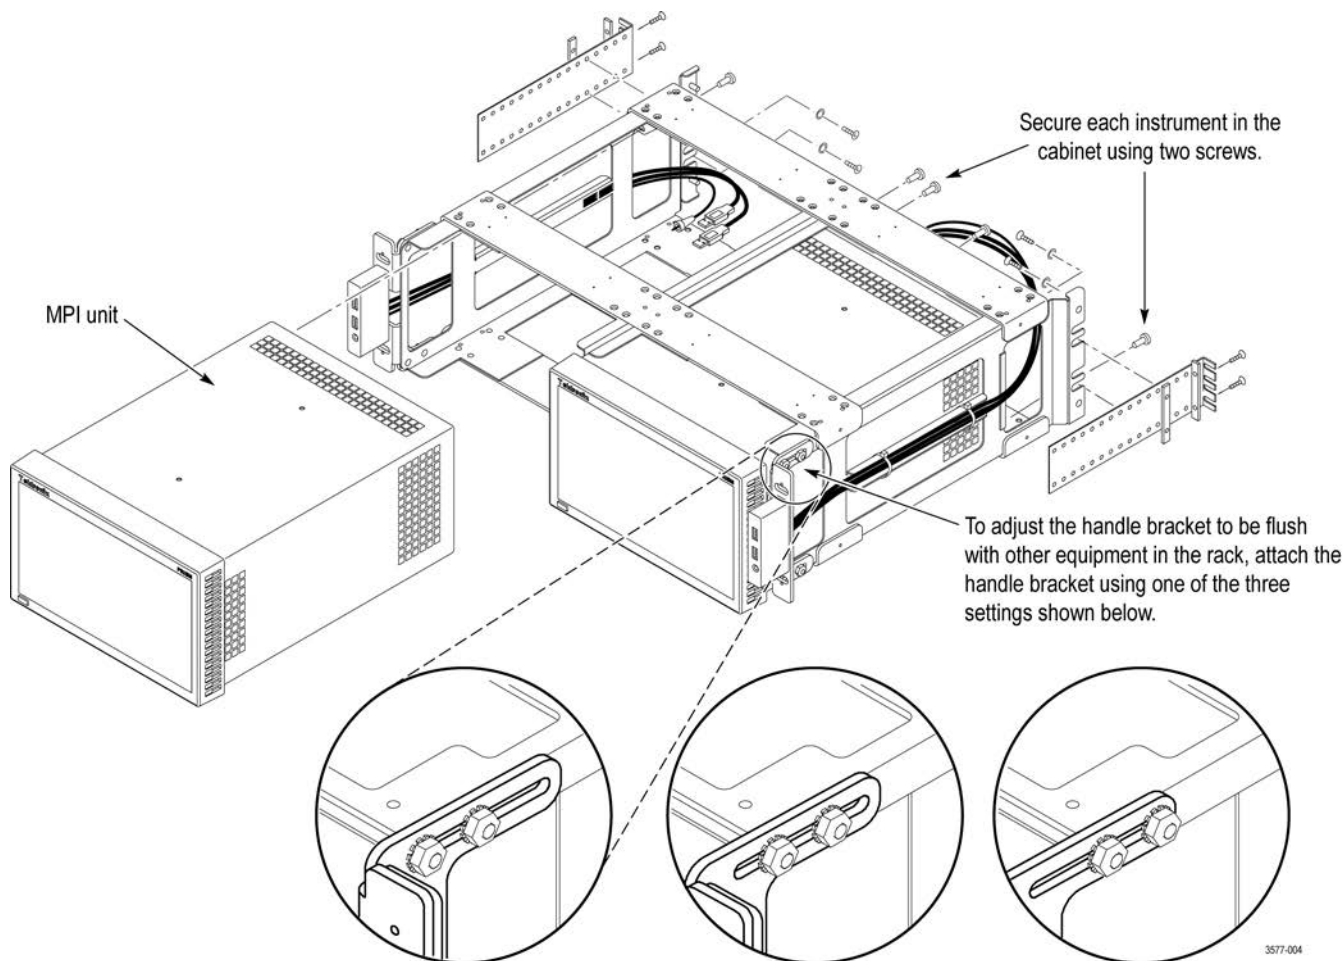
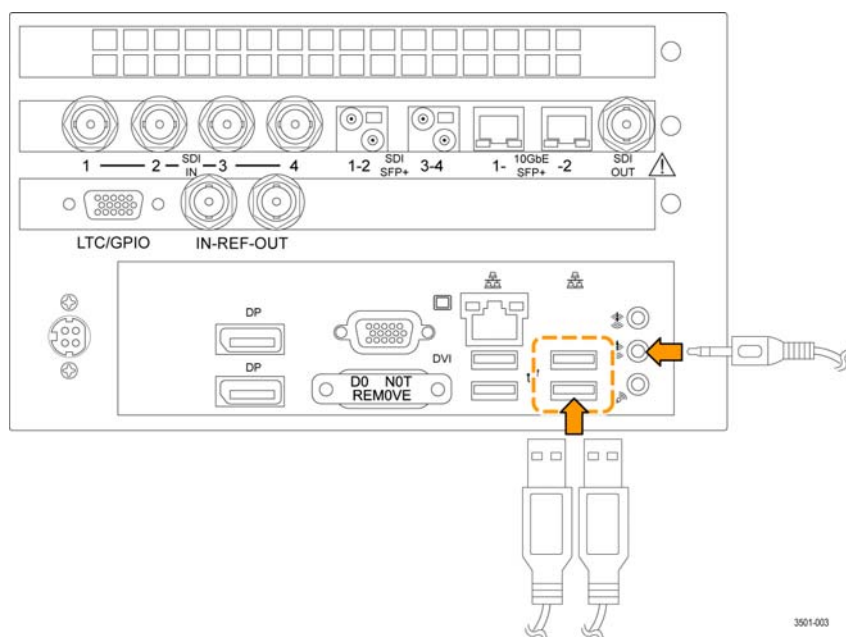

Figure 5: Installing two MPI monitors in the MPI-RACK-MM dual rack cabinet
Figure 6: Connecting the rack cabinet USB and audio cables to the MPI monitor
1. Install an MPI monitor in the dual rack cabinet: (See Figure 3.) (See Figure 4.) (See Figure 5.)
- b. Use a screwdriver with a TORX T-15 tip to secure the instrument in the dual rack cabinet with two 10-32 X 0.625 screws (item 3 in Table 4). The screws attach to the top right and bottom left holes in the instrument chassis as viewed from the rear.
- c. Connect the cables from the USB ports and headphone jack on the dual rack cabinet to the rear of the instrument. (See Figure 6.) You can connect the USB cables to either set of USB ports on the rear panel.